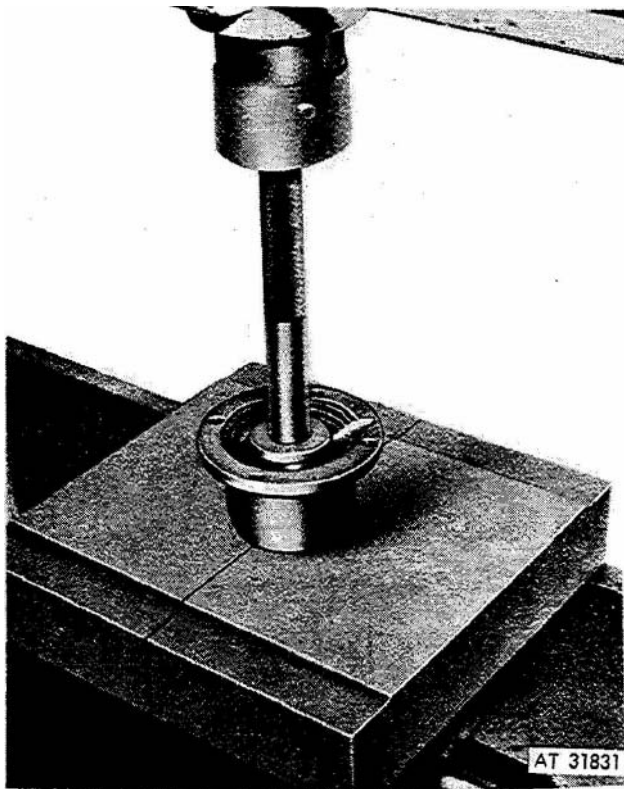

Figure 3-35. Pressing in clutch bearing retainer oil seal
(24) Using a suitable tool install oil seal (4, fig 3-14) in clutch gear bearing retainer (3) (fig 3-35).